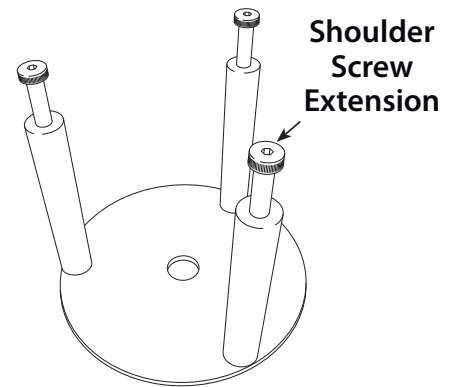

Figure 1B
1. Install three (3) shoulder screw extensions (provided) on the tripod setting gauge. (Figure 1B) Place the gauge on top of and centered on the DPF.